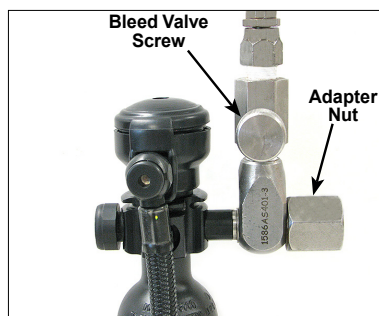

Figure 16
6. Install the threaded male fitting of the fill adapter into the fill port of the first stage and turn the adapter nut clockwise only by hand until snug. DO NOT apply a wrench or otherwise overtighten the fill adapter. (Fig. 16).